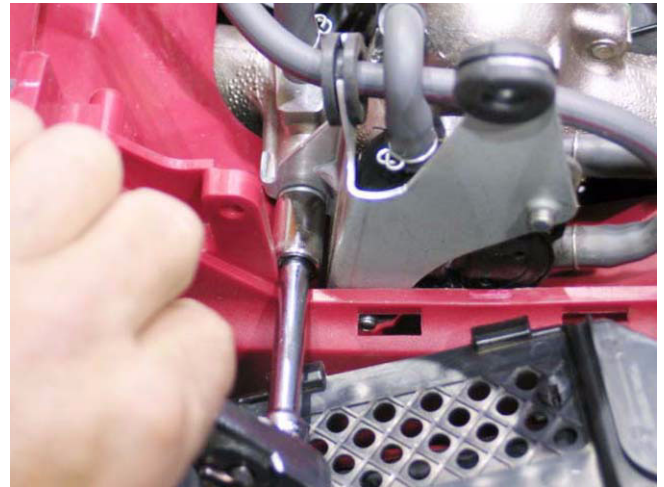

Figure 15.9
- 15.9. Remove the fuel pump bracket from the intake manifold using a 10 mm socket. See Figure 15.9.